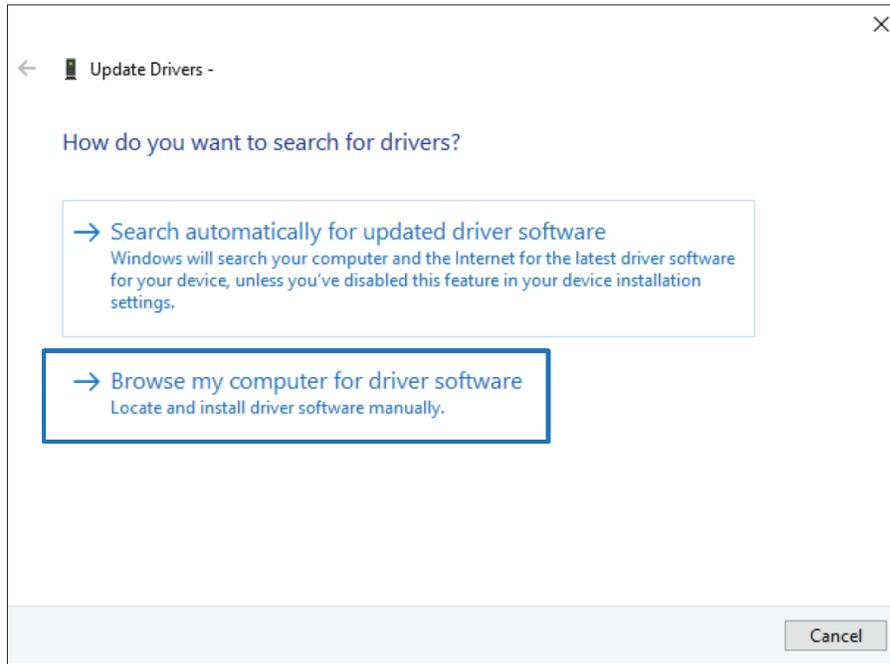

Figure 31
2. Two options will be presented, choose “Browse my computer for driver software”. (Figure 31)